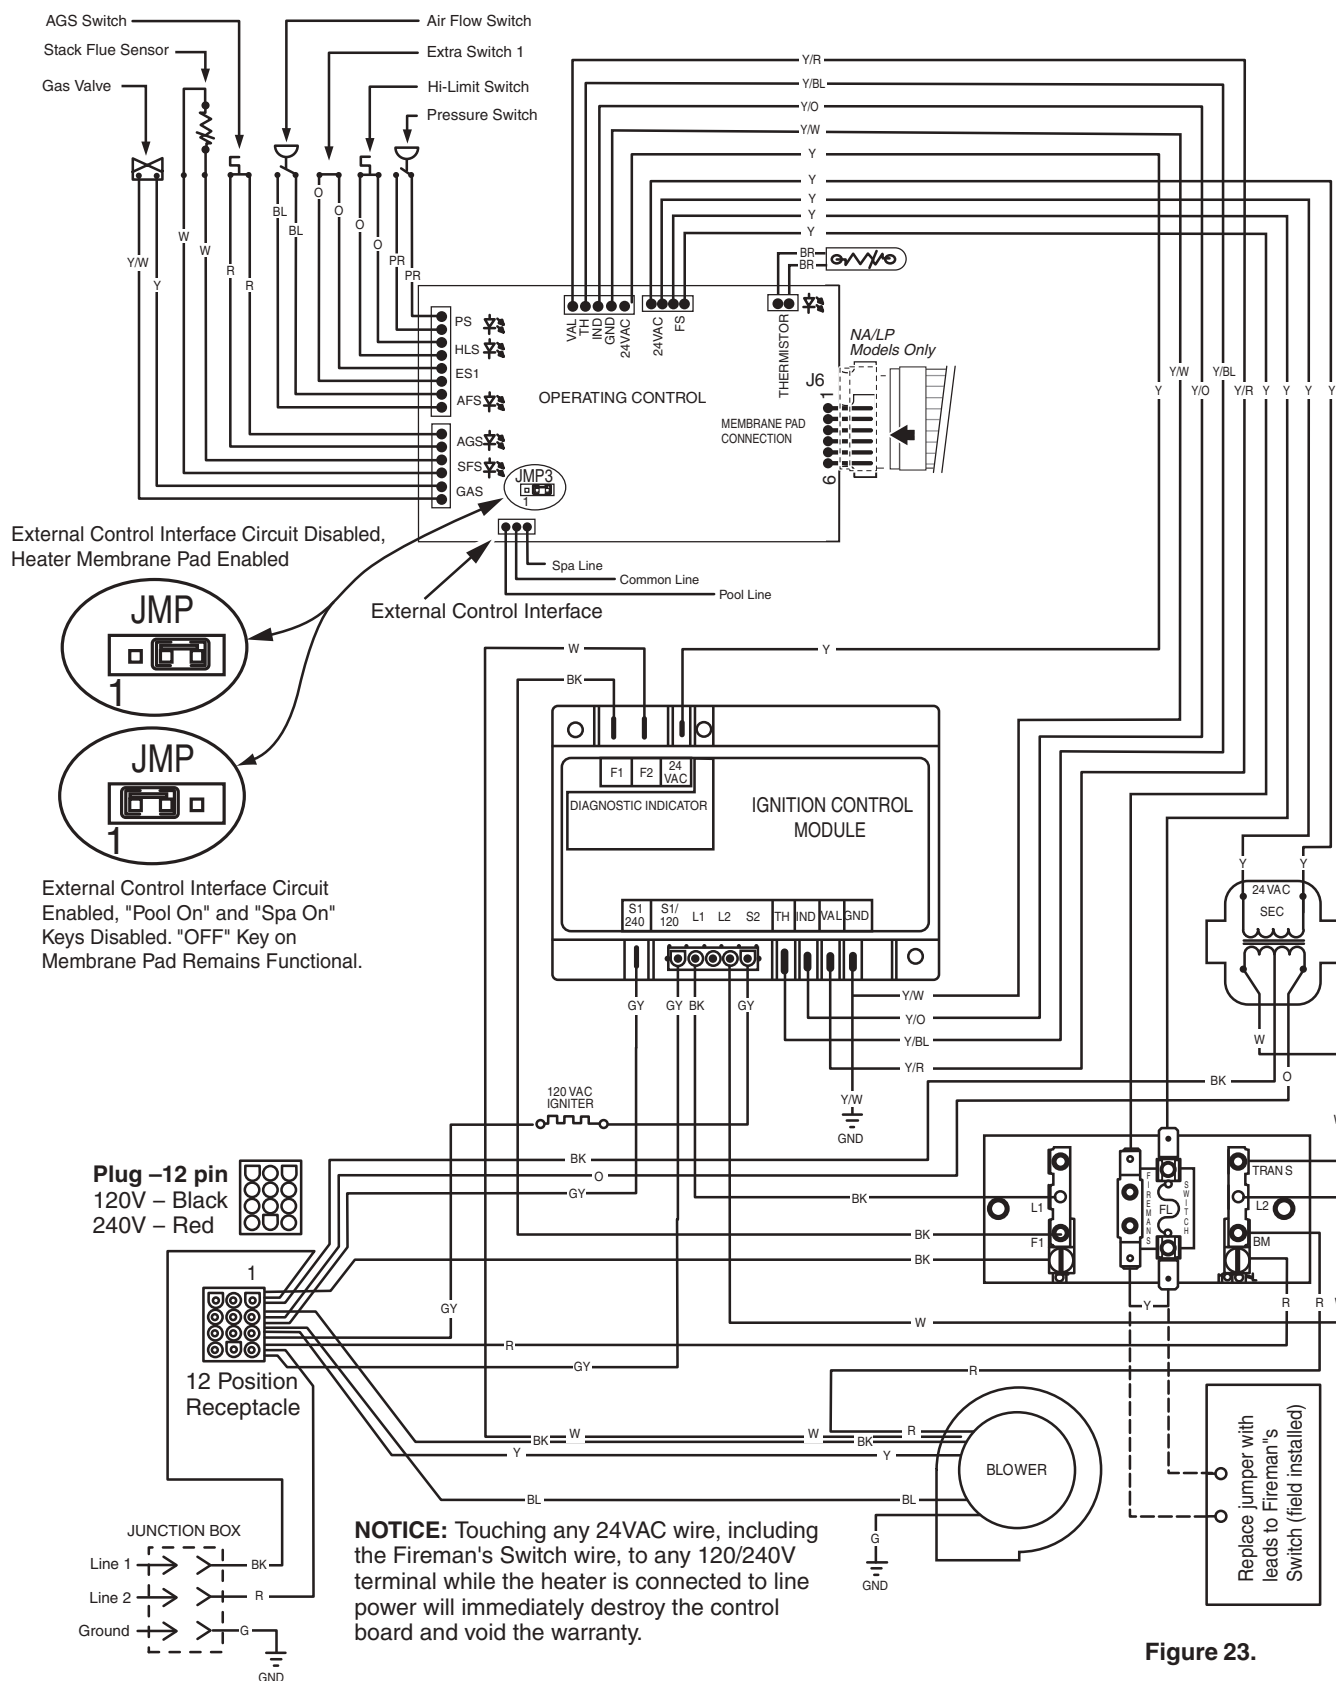

Figure 23.
- Connect wires between the control board terminals on the heater and the external relays, as shown in Figure 23. Use at least 2 relays per heater, to allow for an "OFF setting" on each heater mode. Select relays that can handle logic level switching. DO NOT apply line voltage to control board terminals.
- Move jumper (as shown on Figure 23) to enable external control and to disable the heater membrane pad's "Pool ON" and "Spa ON" buttons (the "OFF" key on the membrane pad remains functional).